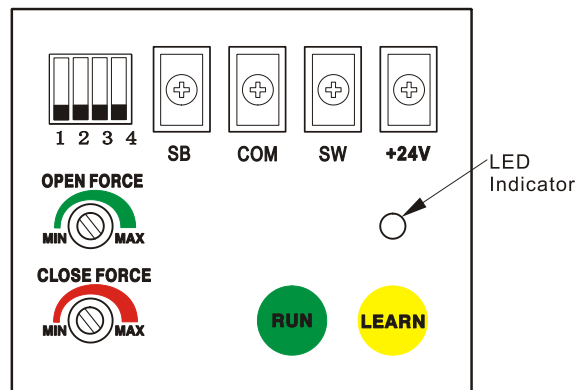

Fig 11
- Press the Green Coloured “Run” Button located on the Rear Cover of the AGDO. (Fig.11)
- c. **LED Indicator (Fig 11) will glow solid once the AGDO reaches the Close Limit position.**
c. LED Indicator (Fig 11) will slow flash once the AGDO reaches the Open Limit position.
- Locate the Learn button (Fig 11) found on the rear cover of the AGDO.
- With the garage door in the **fully closed** position - press the green Run button (Fig.11) so that the garage door begins to open.
- As the garage door is opening - slowly turn the Open Force (green) adjustment pin (Fig.11) in an anti-clockwise direction until the garage door stops.
- Press the green “Run” button (Fig.11) so that the garage door begins to open.
- With the garage door in the **fully open** position, press the Run button (Fig.11) so that the garage door begins to close.
- As the garage door is closing - slowly turn the Close Force (red) adjustment pin (Fig.11) in an anti-clockwise direction until the garage door stops and begins to reverse direction.
- If the AGDO stops but does not reverse then turn the Close Force (red) adjustment pin 5 degrees in an anti-clockwise direction. (Fig 11)
- ii. momentarily press “Learn” button (Fig.11) – LED Indicator will glow solid
- Select Dips 1 & 2 to the “ON” position. (Fig.11)
- The Dip Switches located within the back cover of the AGDO (Fig.11) enable or disable specific functionality.
- The Learn button (Fig 11) is located on the rear cover of the AGDO and serves to initiate the functions as described in the following table;
- The LED Indicator (Fig 11) is located on the rear cover of the AGDO and serves to provide visual indication of functionality sequences as described in the following table;
- 4 Output Terminals (Fig.11) are provided within the back cover of the AGDO to support the connection of the following accessories;